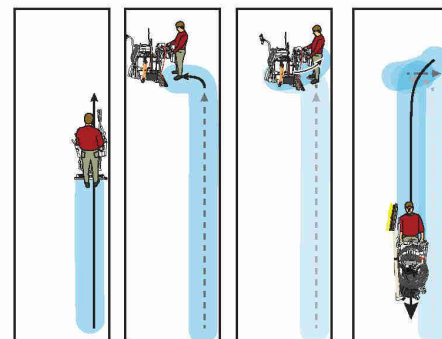

Fig. 22
- Turn Spigot clockwise to the OFF position when job is complete (**Fig. 22**).